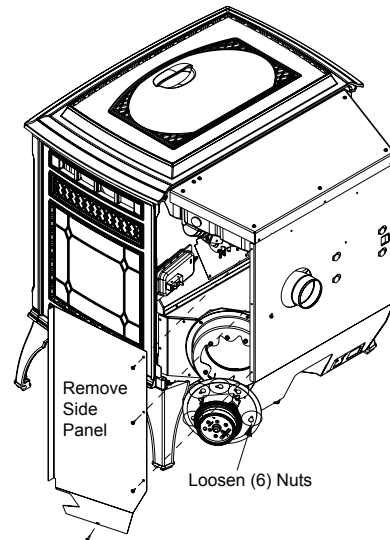

Figure 28.5
- The combustion blower is mounted in the bottom right rear of the appliance (**Figure 28.5**).